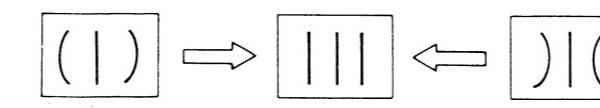

Fig. 29-4
2. Adjust SIDE PIN by turning DA board RV15 as shown in Fig. 29-4.